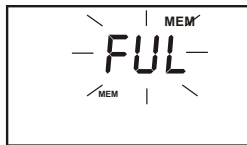

Figure 7: Memory full
3. If the memory is full, the display will flash “MEM – FUL” momentarily (Figure 7). The first value stored will be erased to create space for the new value.